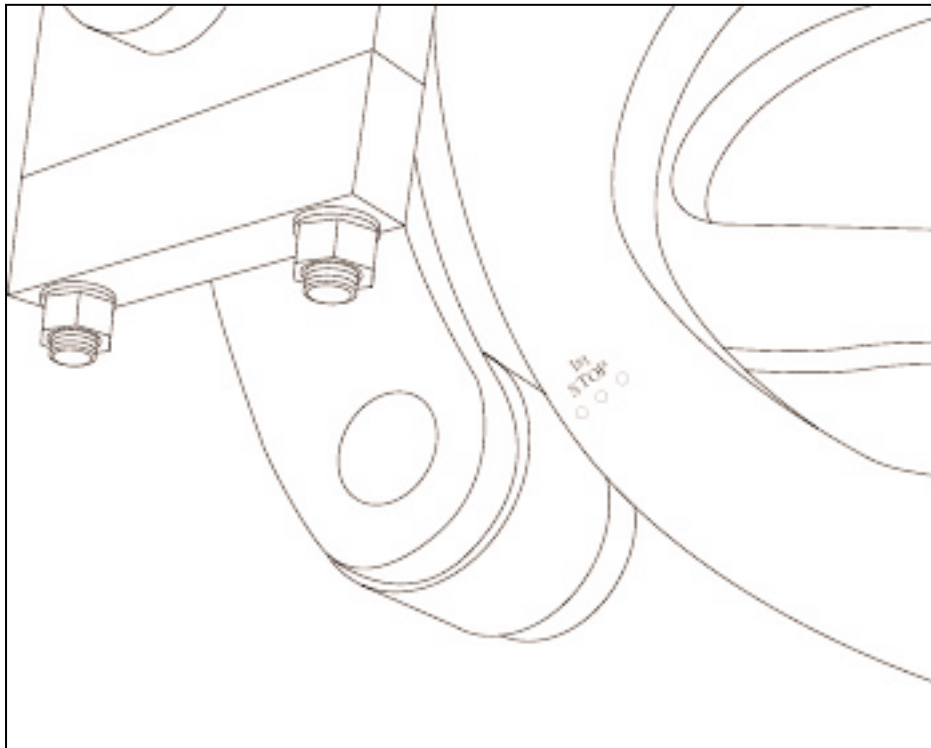

Figure 4.1 "FIRST STOP" (R.H. side of machine)
4.1.1 Run machine to "first stop" (see figure 4.1)